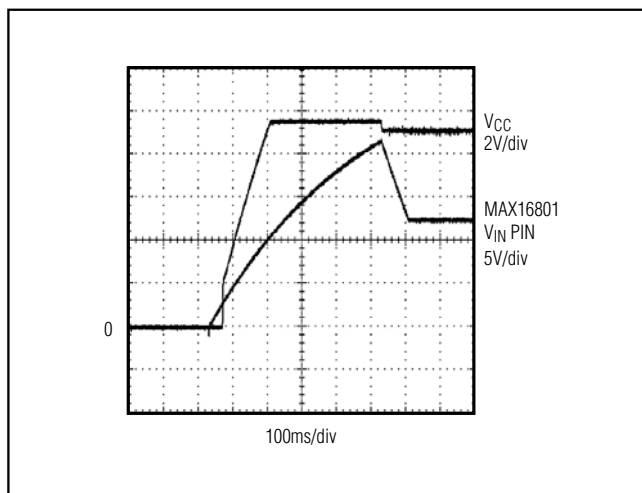
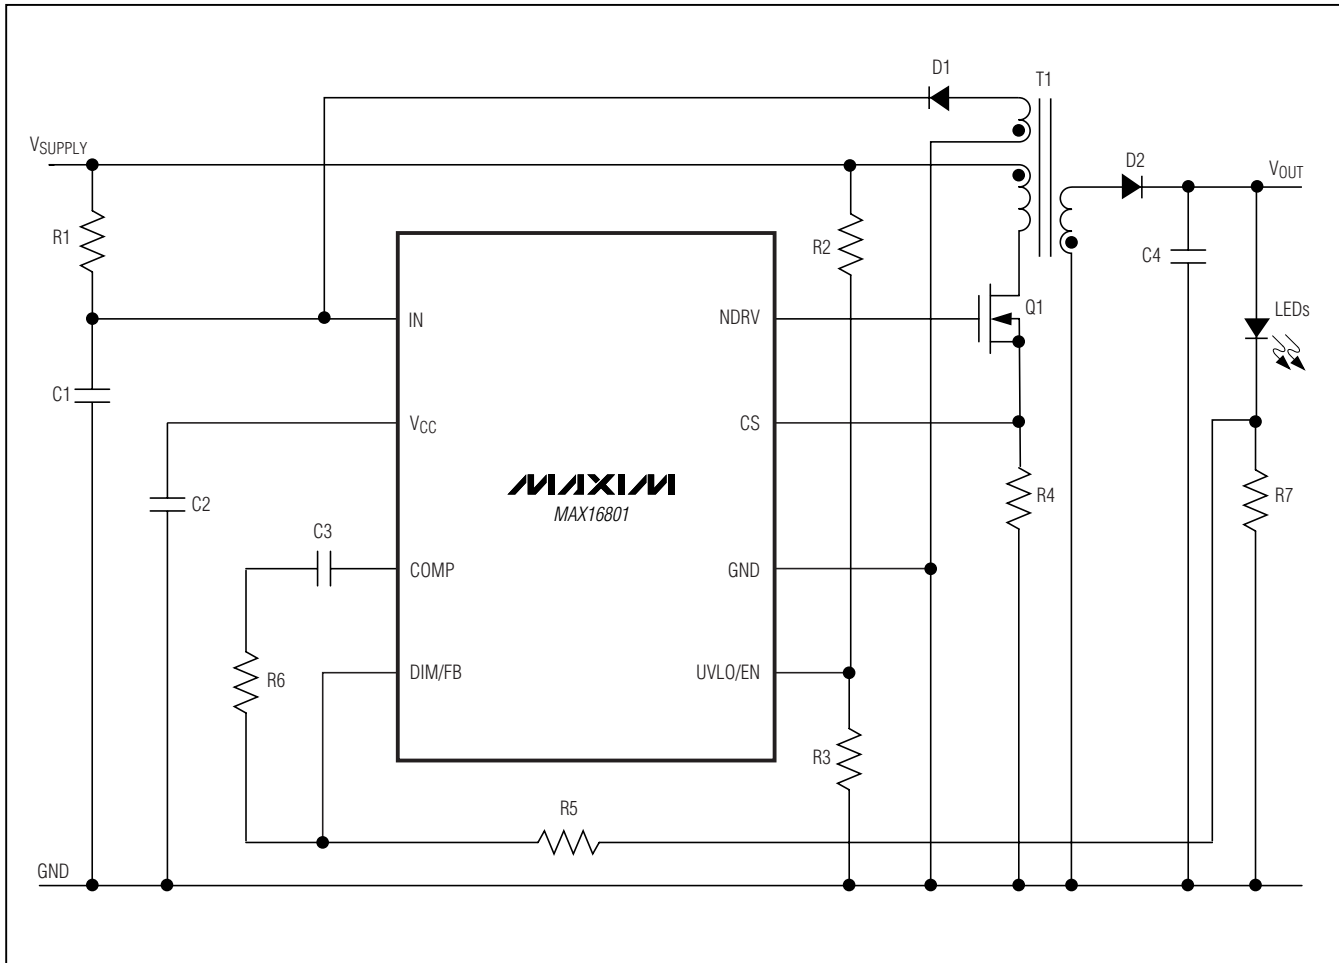

Figure 3. VIN and VCC During Startup when Using the MAX16801 in Bootstrapped Mode
Figure 5. Offline, Nonisolated, Flyback LED Driver with Programmable Input-Supply Start Voltage
**Note 3:** The MAX16801 is intended for use in universal input offline drivers. The internal clamp circuit is used to prevent the bootstrap capacitor (C1 in Figure 5) from charging to a voltage beyond the absolute maximum rating of the device when EN/UVLO is low. The maximum current to IN (hence to clamp) when UVLO is low (device in shutdown), must be externally limited to 2mA (max). Clamp currents higher than 2mA may result in clamp voltage higher than +30V, thus exceeding the absolute maximum rating for IN. For the MAX16802, do not exceed the +24V maximum operating voltage of the device.
The MAX16801/MAX16802 have an input voltage UVLO/EN pin. The threshold of this UVLO is +1.28V. Before any operation can commence, the voltage on this pin has to exceed +1.28V. The UVLO circuit keeps the CPWM comparator, ILIM comparator, oscillator, and output driver in shutdown to reduce current consumption (see the *Functional Diagram*). Use this UVLO function to program the input start voltage. Calculate the divider resistor values, R2 and R3 (Figure 5), by using the following formulas:
In isolated LED driver applications,  $V_{IN}$  can be derived from a tertiary winding of a transformer. However, at startup there is no energy delivered through the transformer. Therefore, a special bootstrap sequence is required. Figure 3 shows the voltages on IN and VCC during startup. Initially, both  $V_{IN}$  and  $V_{CC}$  are 0V. After the line voltage is applied, C1 charges through the startup resistor R1 to an intermediate voltage. At this point, the internal regulator begins charging C2 (see Figure 5). The MAX16801 uses only 45 $\mu A$  of the current supplied by R1, and the remaining input current charges C1 and C2. The charging of C2 stops when the VCC voltage reaches approximately +9.5V, while the voltage across C1 continues rising until it reaches
The MAX16801/MAX16802 include an internal error amplifier that can be used to regulate the LED current very accurately. For example, see the nonisolated power supply in Figure 5. Calculate the LED current using the following equation:
The IN bypass capacitor C1 supplies current immediately after wake-up (Figure 5). The size of C1 and the connection configuration of the tertiary winding determine the number of cycles available for startup. Large values of C1 increase the startup time but also supply gate charge for more cycles during initial startup. If the value of C1 is too small,  $V_{IN}$  drops below +9.7V because NDRV does not have enough time to switch and build up sufficient voltage across the tertiary winding that powers the device. The device goes back into UVLO and does not start. Use low-leakage capacitors for C1 and C2.
The above startup method is applicable to a circuit similar to the one shown in Figure 5. In this circuit, the tertiary winding has the same phase as the output windings. Thus, the voltage on the tertiary winding at any given time is proportional to the output voltage and goes through the same soft-start period as the output voltage. The minimum discharge voltage of C1 from +22V to +10V must be greater than the soft-start time of 60ms.
Figure 5 shows an offline application of an HB LED driver using the MAX16801. The use of transformer T1 allows significant design flexibility. Use the internal error amplifier for a very accurate LED current control.